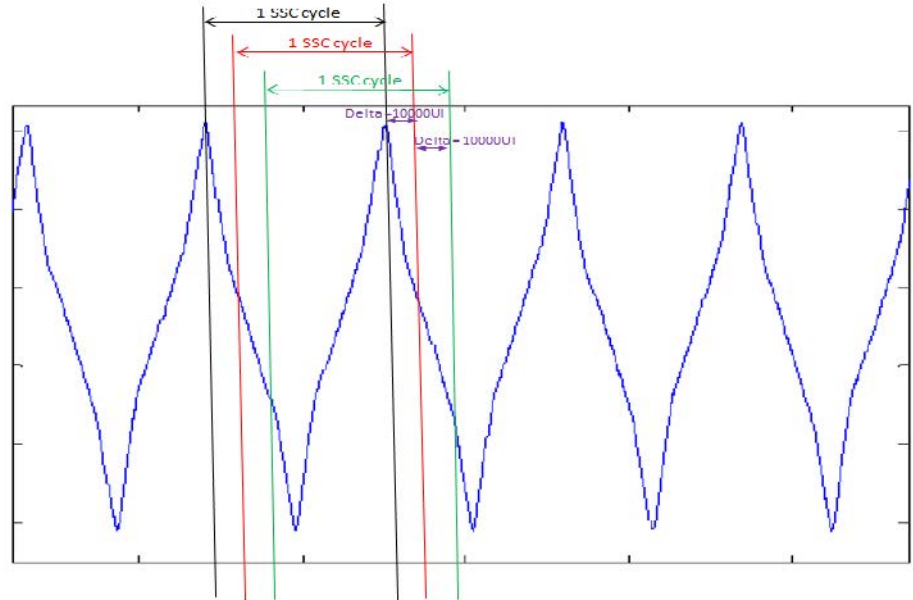

Figure 84 Measurement of UI\_MEAN over at least 10 SSC Cycles
- 4 Measure UI\_MEAN over different windows that uniformly cover the Oscilloscope capture for at least 300ms (more than 10 SSC Cycles) with 10000 UI window jumps. See Figure 84.